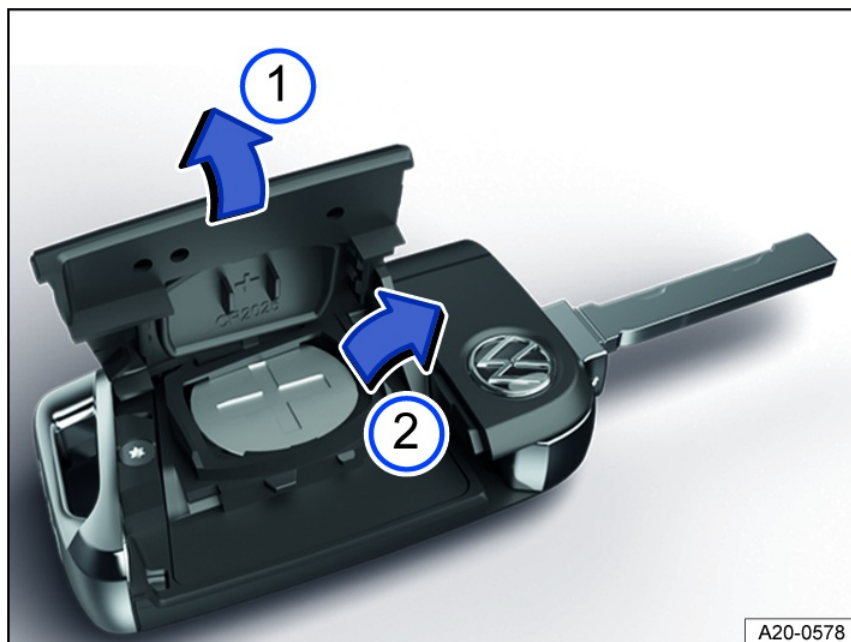

Fig. 53 Vehicle key: Replacing the button cell battery (general example).
- ① Cover
- ② Button cell battery
2. Lever off the cover fig. 53.
3. Lift the button cell battery out of the battery compartment fig. 53, ⇒ ⚠.
5. Press the cover out of the housing fig. 53, ⇒ ⚠.